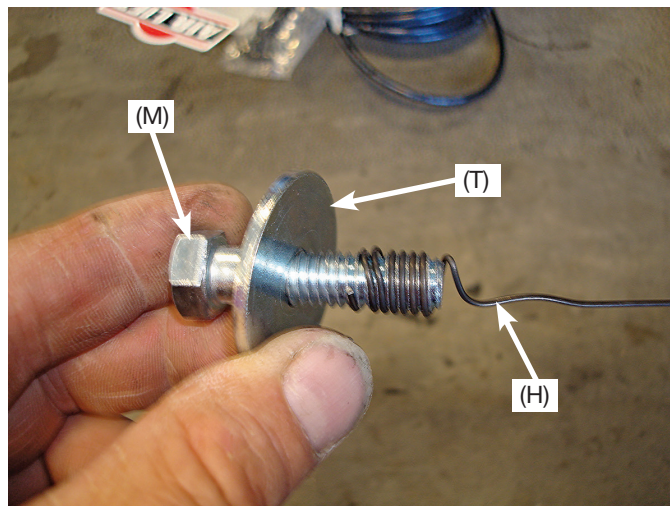

fig. 16
1. Install a large flat washer (T) over the hex-head bolt (M) and thread the wire bolt leader tool (H) onto the threads of the bolt (fig. 16).